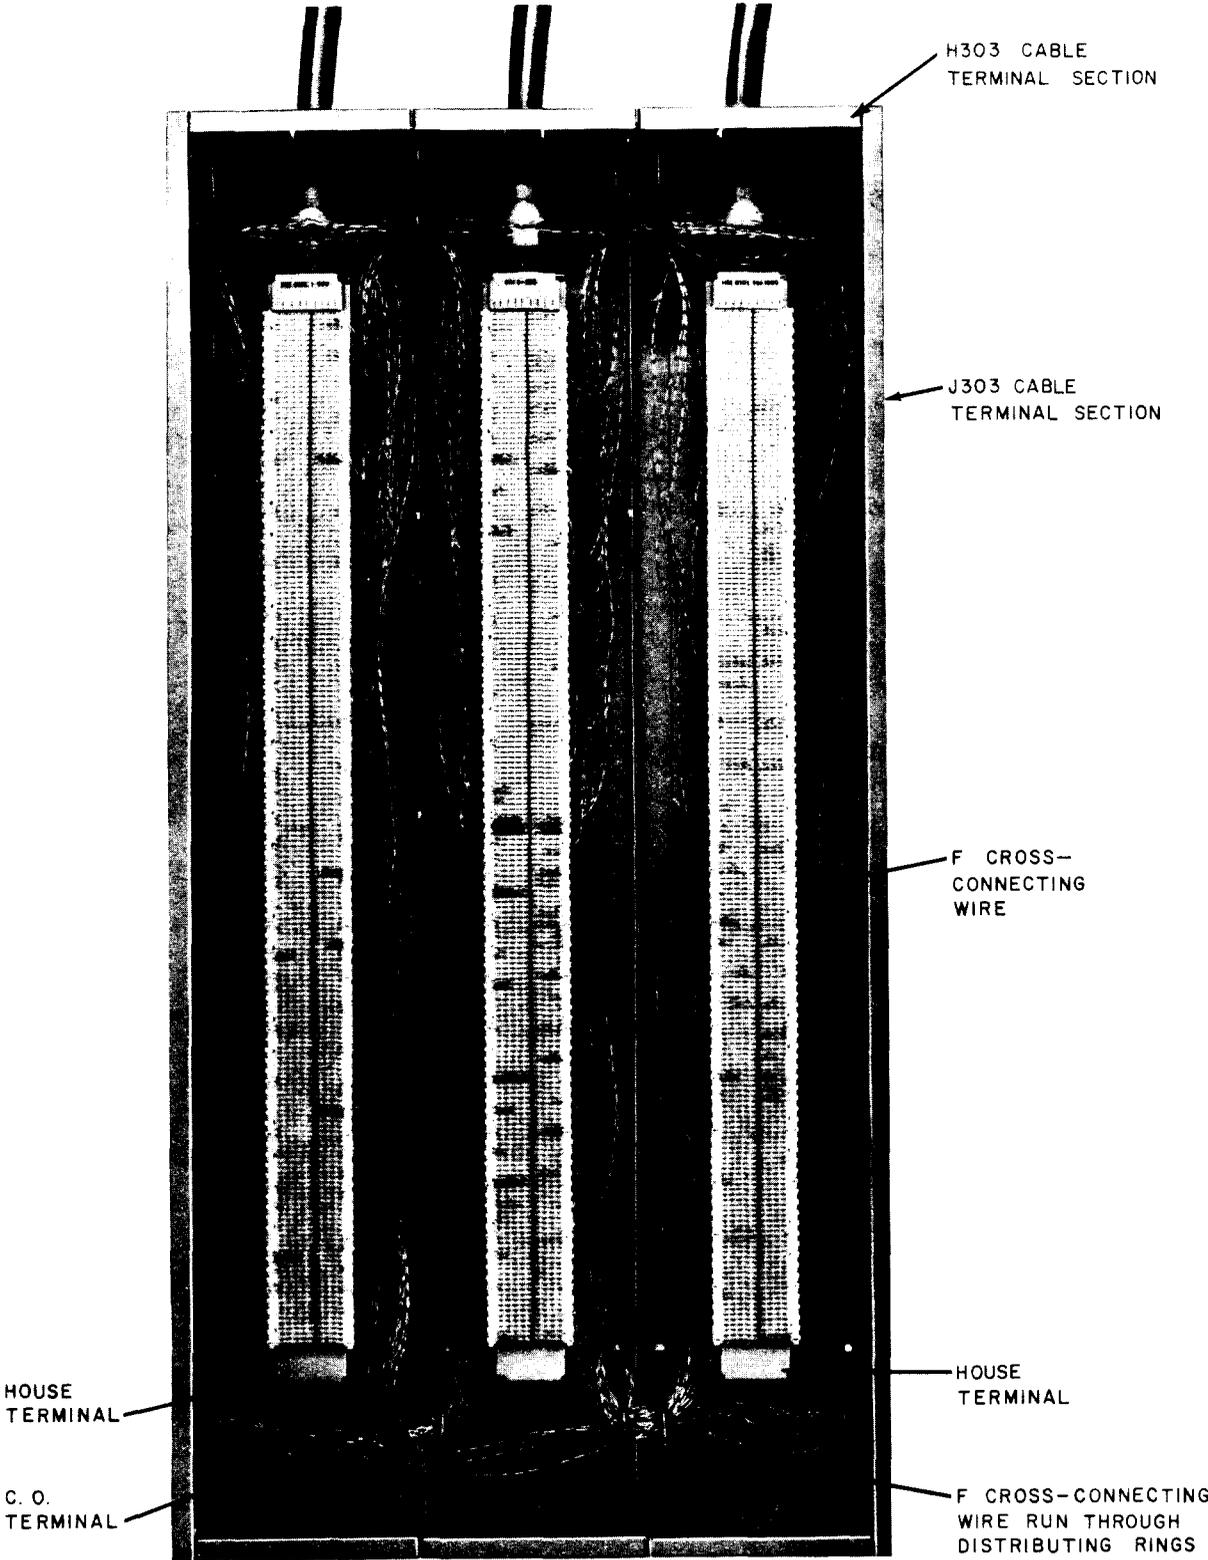

Fig. 16—Main Terminal With 5A Terminal Mounted in Cabinet
3.05 The 5A-type terminal block mounted in H308 Cable Terminal Sections for mechanical protection is illustrated in Fig. 16. The cross-connecting wires from the central office terminals are split with 60 percent of the cross-connecting wires routed through the top wiring rings and 40 percent routed through the bottom wiring rings.
3.06 Using the 714B Tool terminate the cross-connecting wire to the assigned central office cable pair, then route the cross-connecting wire to the assigned building cable pair as shown in Fig. 16. Connect to the assigned building cable pair.